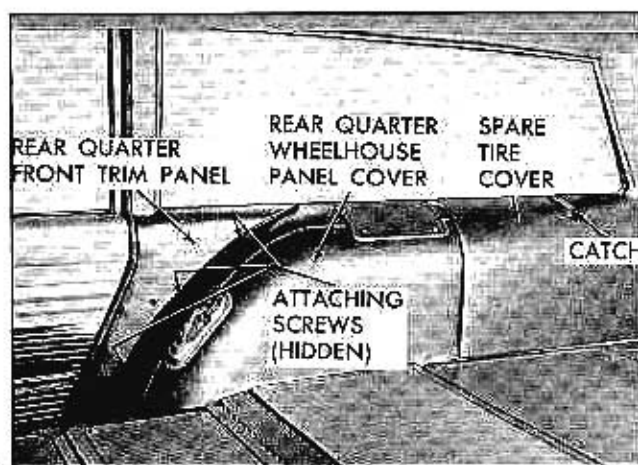

Fig. 3-12 Right Rear Quarter Trim—Station Wagon
2. Remove attaching screws securing trim panel to quarter inner panel and spare tire cover support. (Fig. 3-12).